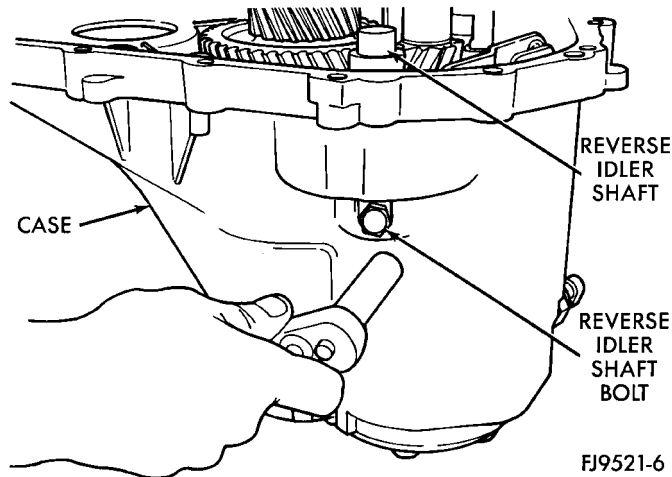
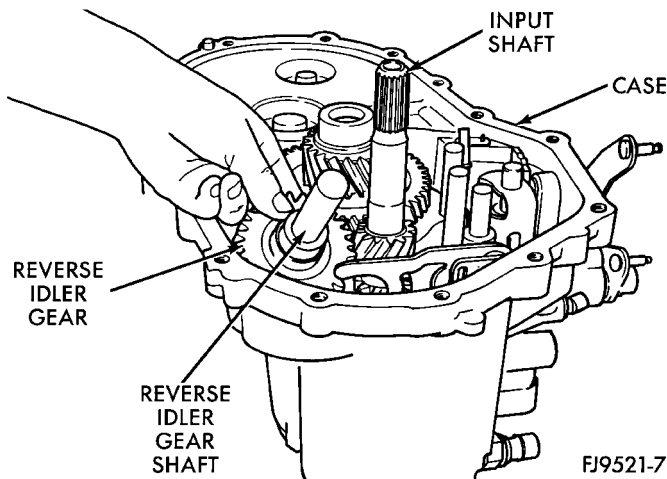

Fig. 35 Reverse Idler Shaft Bolt Removal
Fig. 36 Reverse Idler Gear Removal
(7) Remove reverse idler shaft bolt (Fig. 35). Remove reverse idler gear (Fig. 36).